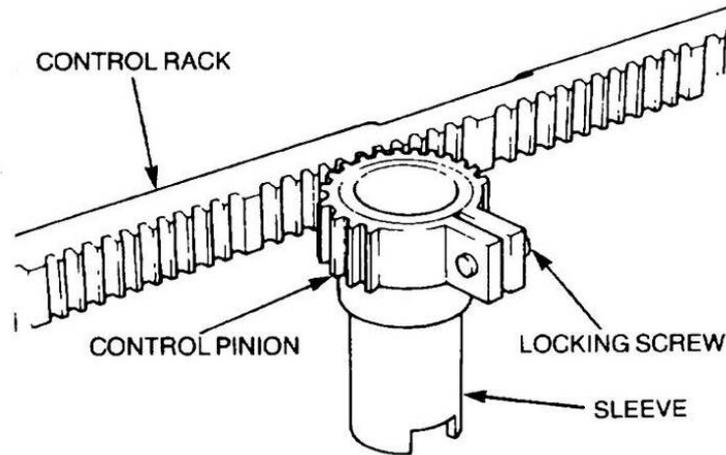

Figure 78 Checking the Control Rack and Pinion
- h. Inspect the control rack bushes in the injection pump body for wear and replace the bushes as necessary. Inspect the control rack for bend, excessive wear on the bush sliding area of the rack and for excessive wear in the gear teeth (when checked with each control pinion). Also check the control pinion locking screw for damage (Figure 78) which may prevent the control pinion from being locked in position. Replace worn or damaged parts as necessary.